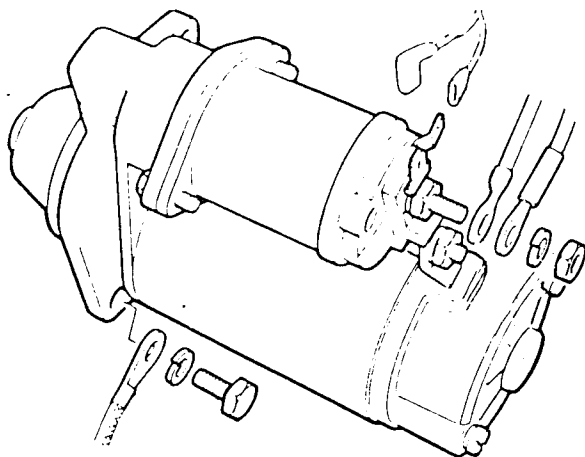

Fig B4.28
(18) Refer to Fig B4.28. Reconnect the five electrical leads to the starter motor and where applicable secure with nuts or bolt and lock washers.
(19) Reconnect the oil cooler pipes to the filter (see Sub-section B4, Chapter 22).
(20) Refit and secure the two exhaust pipes (see Sub-section F3, Chapter 2).